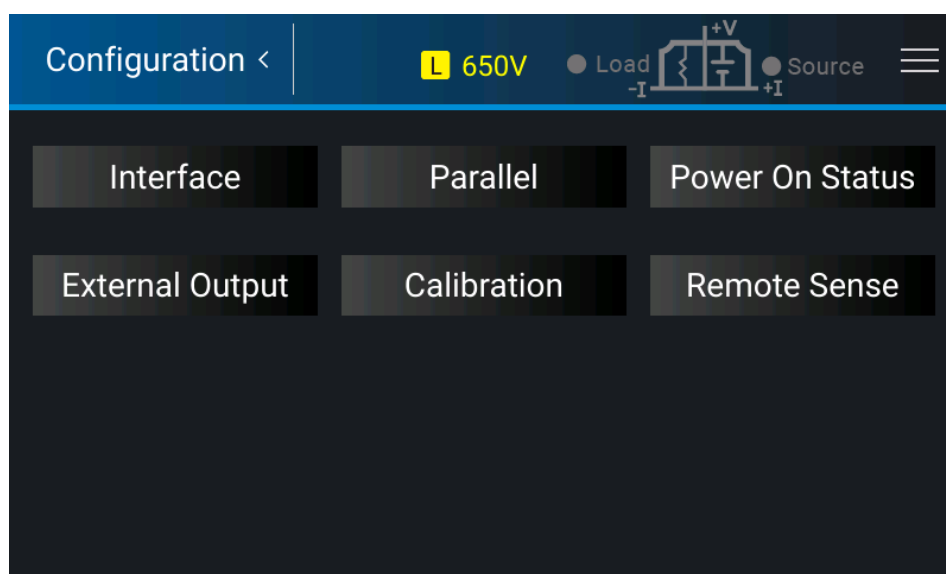
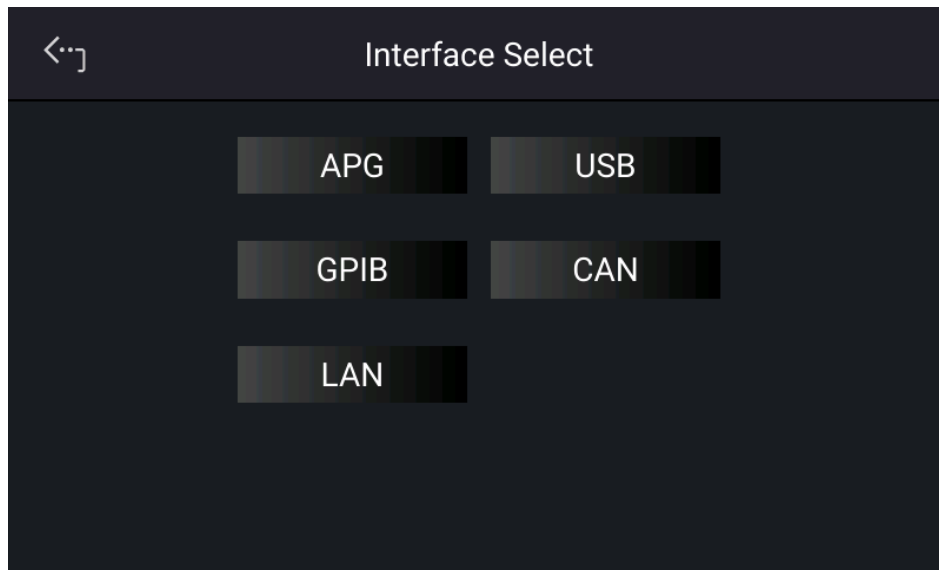

Figure 3-58
Figure 3-59
Tap Configuration on the Menu page and select Interface and APG as shown in Figure 3-58 and Figure 3-59.
1. Tap "Menu", "Configuration" and "Interface:" to select LAN as shown in Figure 3-58, Figure 3-59, and Figure 3-61.